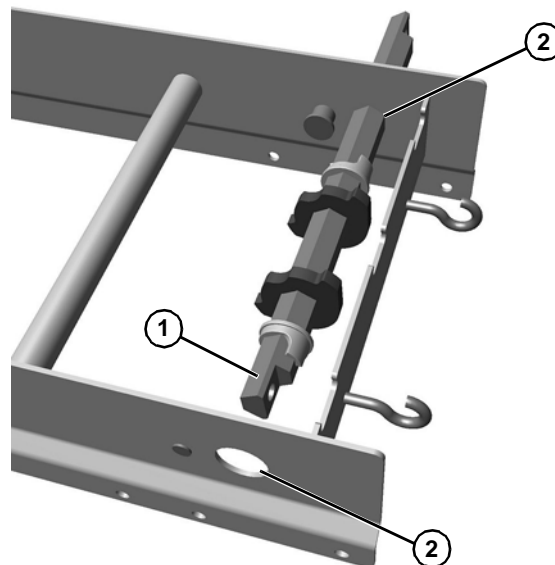

Figure 16
2. Place hex shaft assembly (Figure 16, item 1) through the conveyor frame tip up holes (Figure 16, item 2) and center with conveyor.